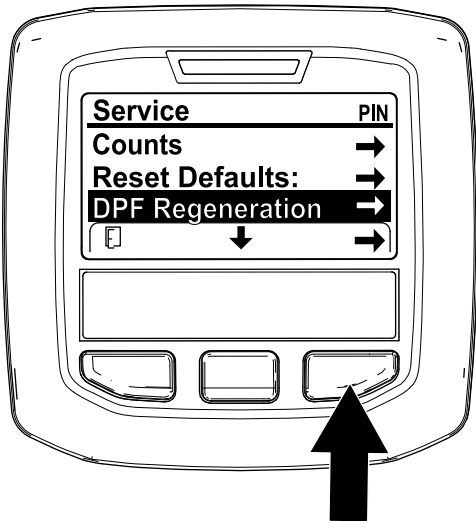

Figure 32
1. Access the Service menu, press the center button to scroll down to the DPF REGENERATION option (Figure 32).
2. Press the right button to select the DPF Regeneration entry (Figure 32).